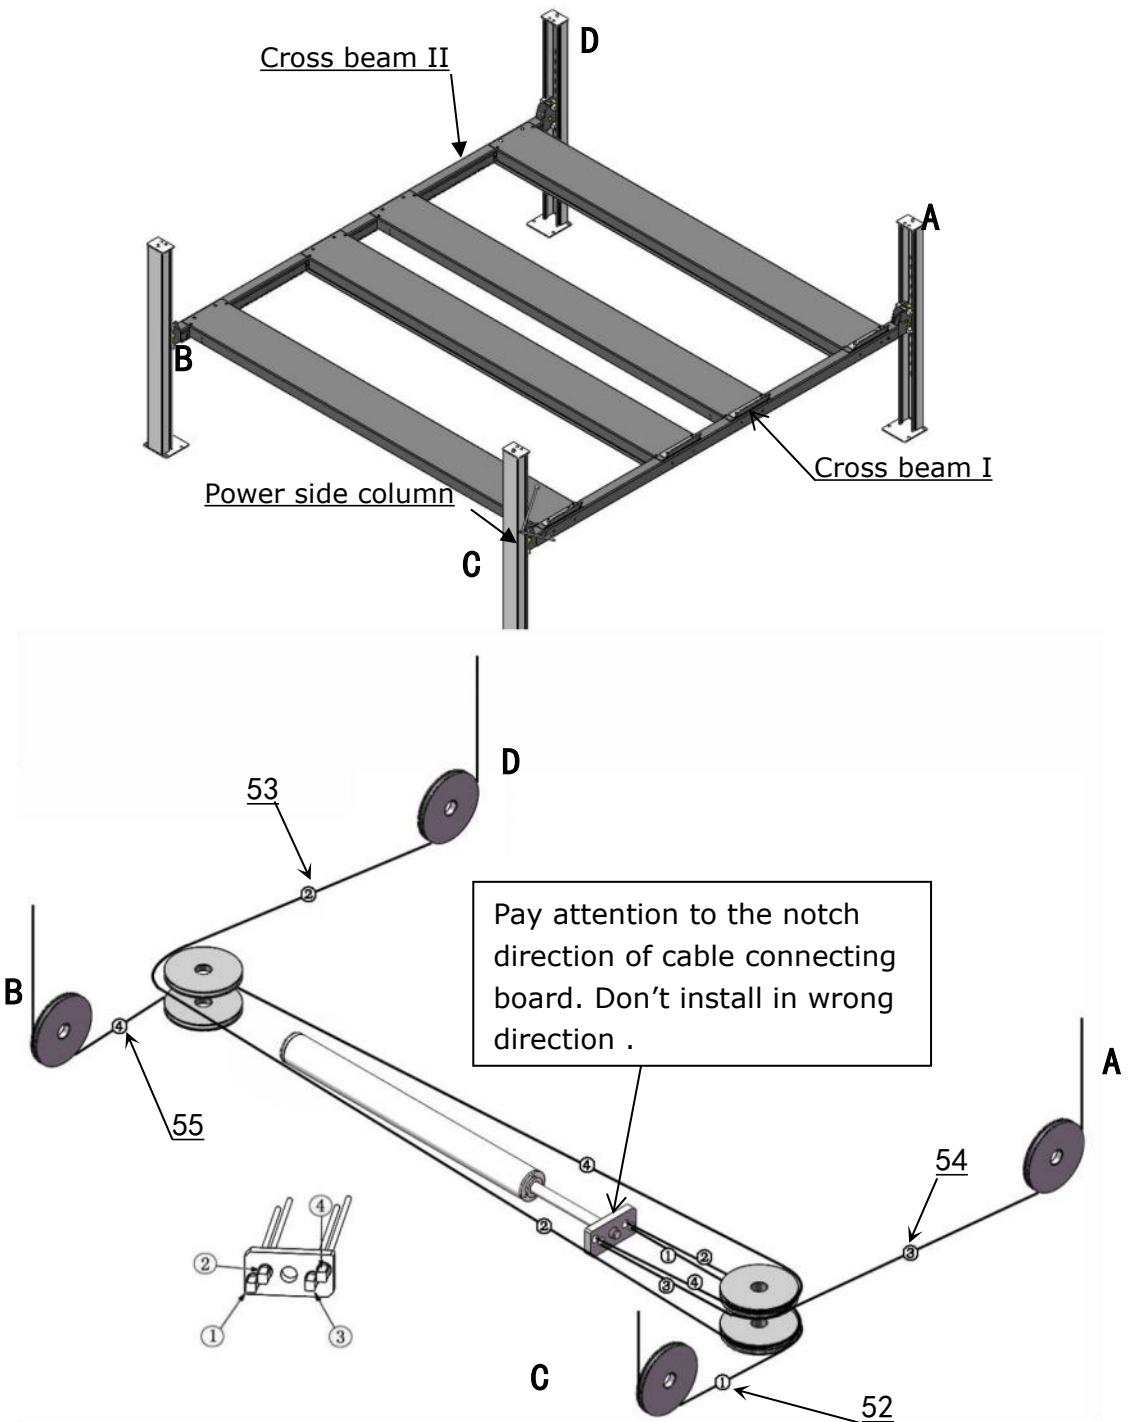

Fig. 28
1. Pass the cables from platform to the columns according to the number of the cables (See Fig.28).